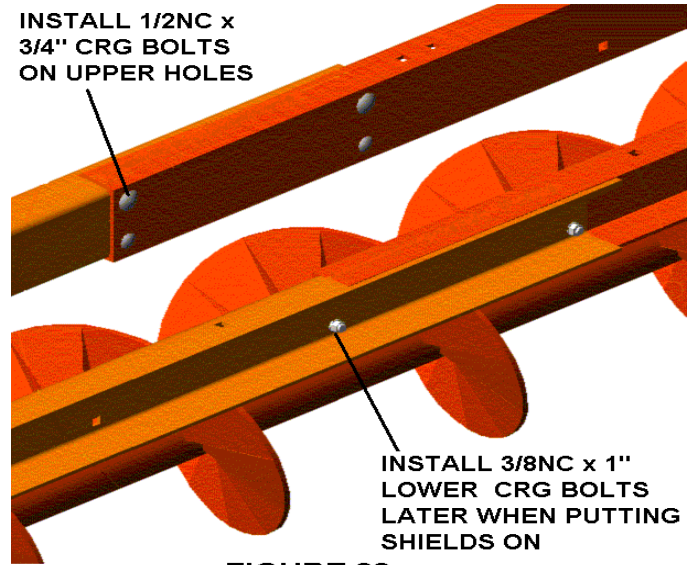

FIGURE 22
- Lap the channel extensions inside the main channels and bolt together with (2) 1/2" x 1" carriage bolts and whiz nuts in the top row of holes. Do not put bolts in lower row of holes until installing auger shields later. See Fig. 22.